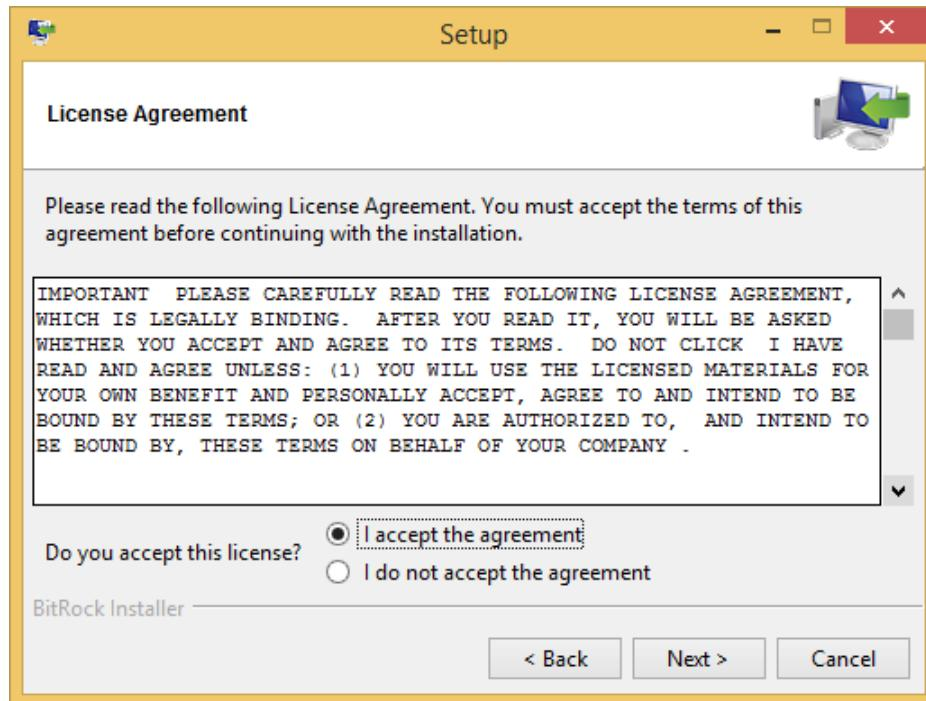

Figure 3. GUI Installer License Agreement
5. Read the license agreement and if you still wish to install the software, select "I accept the agreement" and click "Next" as shown in Figure 3